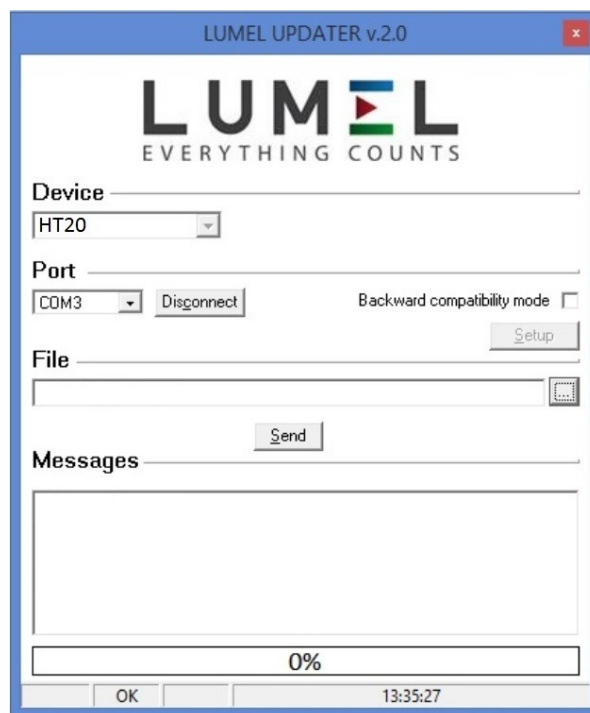

Fig. 22. View of the program to upgrade the firmware.
After starting the eCon program the speed, mode, the monitor IP address and RS-485 port must be set in the **Communication** tab. Then click the icon. **Connect**. Then click the link **Upgrade firmware** which will display the window of LUMEL UPDATER (LU) – **Fig. 22**. Click the **Connect** button **Messages** information window contains info about the progress of the upgrade process. When the port is properly opened the display shows: **Port opened**. Switching to the upgrade mode is performed remotely via LU (based on the settings in eCon or the website - address, mode, speed, COM port) - upgrade according to the recommended communication parameters, i.e. speed 115200 kb/s, 8N2 mode. If the monitor establishes communication with LUMEL UPDATER the following message is displayed in LU program **Device found: HT20** and the version of the main program and the bootloader of the connected device, and the monitor display will show the message "Device is ready." Then, while pressing the button „ ... ” load the file with the new version of the software in LUMEL UPDATER. When the file is properly opened, LU program displays information **File opened**. Press the **Send** button. During upgrade, the percentage update progress is displayed on the bottom row of the display. After successful upgrade the monitor switches to normal operation, and the information window shows **Done** and the upgrade duration.